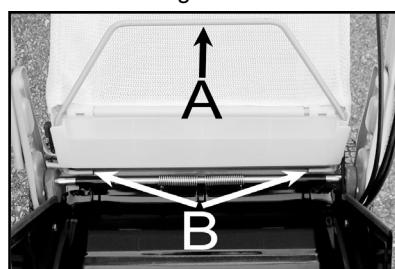

Figure 6
**To fix the grass bag open completely the flap, put the bag holding it by the handle (A, figure 6) on the mower deck by axles (B, figure 6)..**